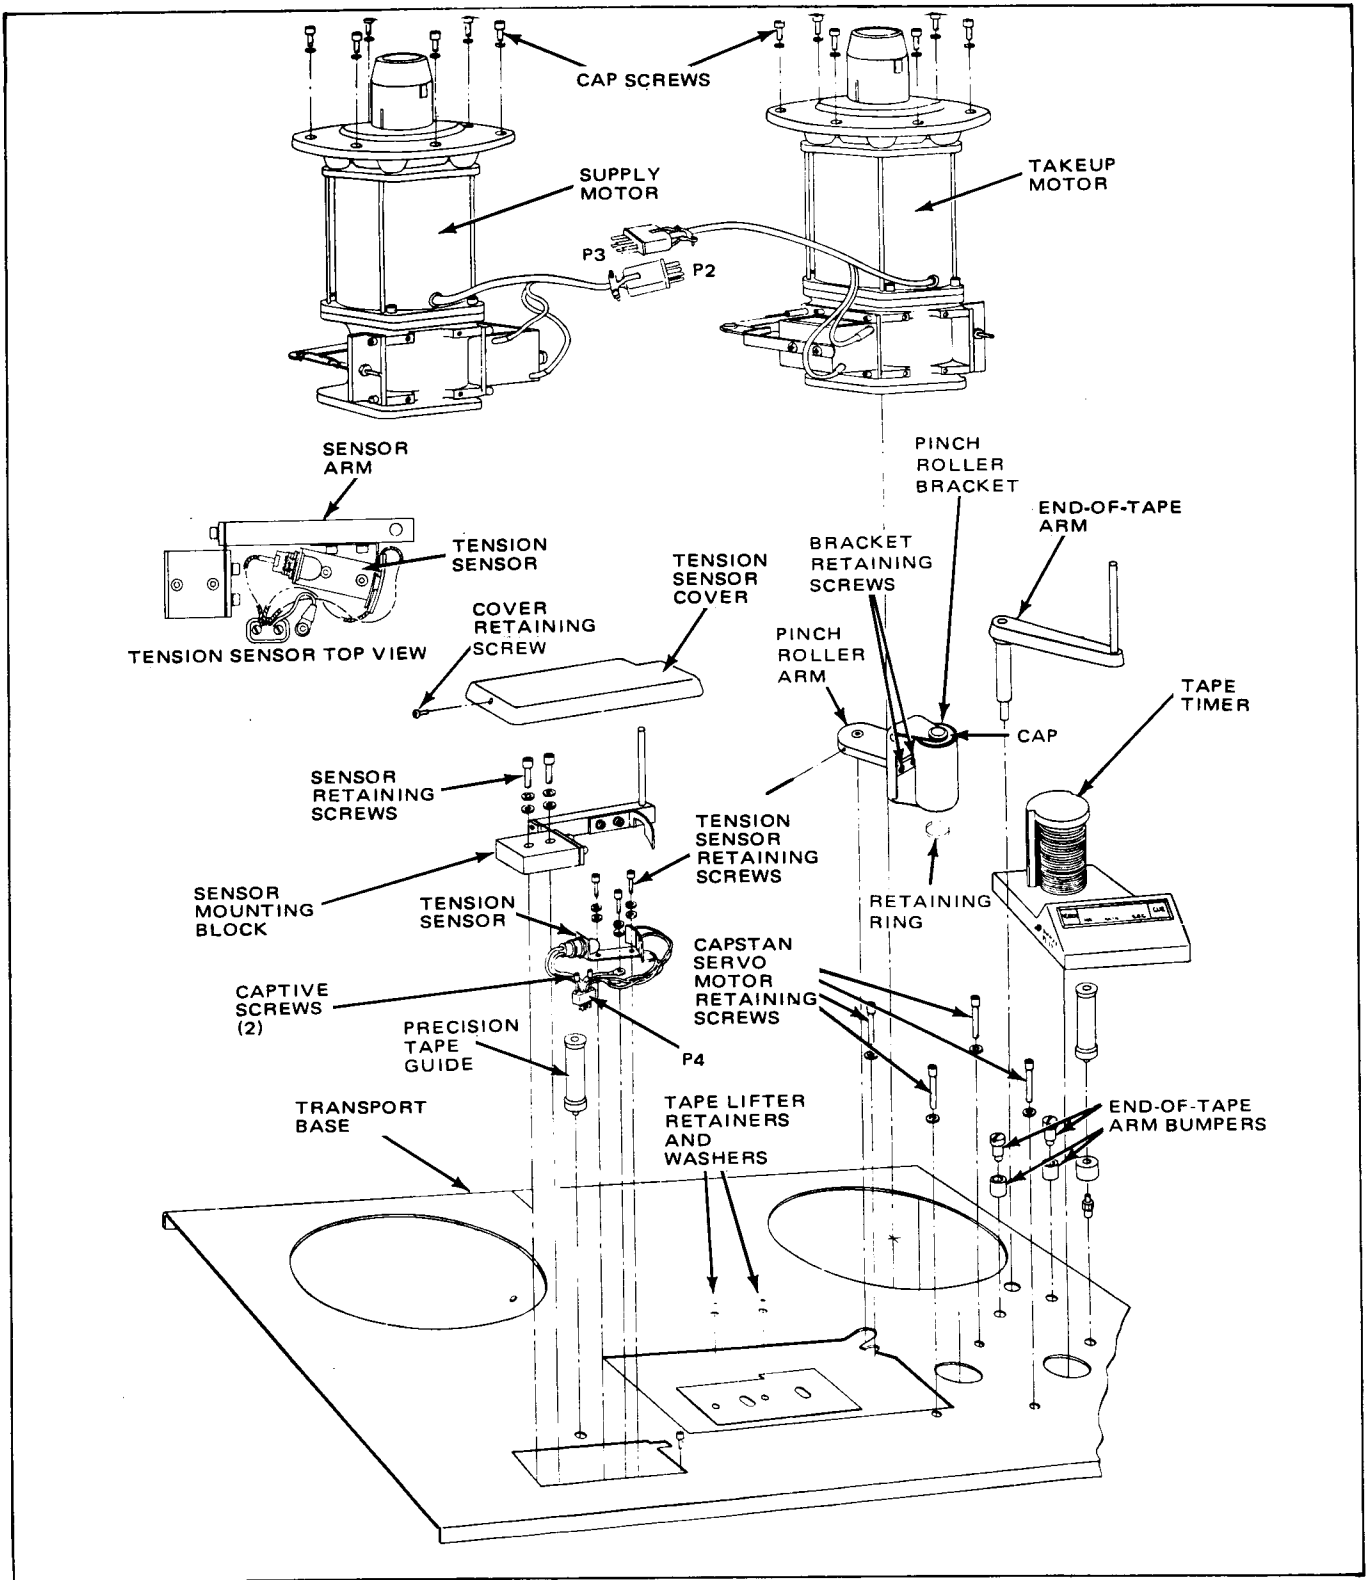

Figure 5-24. Transport Disassembly (Top)
2. Remove six 10/32 capscrews and No. 10 washers from the reel motor mountings (see Figure 5-24).
The two individual sections of the tension sensor may be removed separately. Refer to Figure 5-24 and remove the tension sensor arm as follows.
- Position the sensor arm such that the holes in the sensor arm base align with the mating holes in the transport base (see Figure 5-24).
- Remove the tension sensor cover retaining screw and the tension sensor cover (see Figure 5-24).
- Slide the tension sensor under the sensor cover arm and align the mounting holes with the mating holes in the transport base (see Figure 5-24).
- Remove the retaining ring from the bottom of the pinch roller shaft (see Figure 5-24).